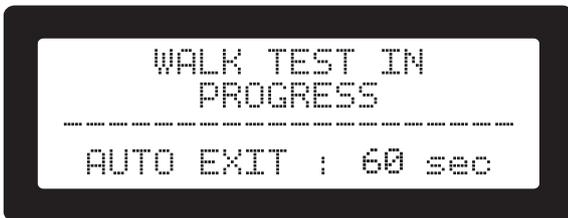

Figure 55. Walk Test screen
- Press **<ENTER>** key to confirm and start the walk test: The Walk test appears (Figure 55 below).